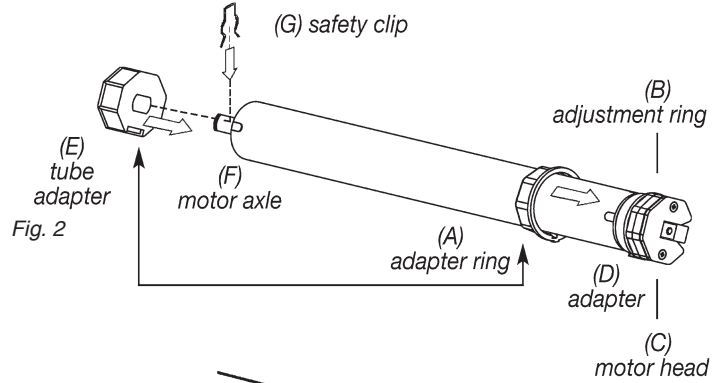
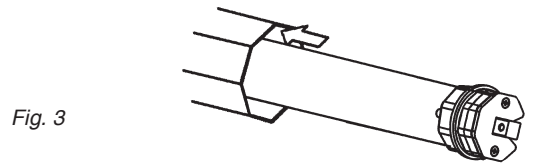

Fig. 2
Fig. 3
5. Slide the adapter ring (A) over the adjustment ring (B) on the motor head (C). Be aware of the correct installation of the notch with the Adapter (D), (figure 2).
6. Place the tube adapter (E) on to the motor axle (F) and secure it with the safety clip (G) that comes within the mounting-kit.
7. Be careful when sliding the tubular motor completely into the tubular shaft, until the adapter ring is covered into the tubular shaft, (figure 3). Under no circumstances external force should be applied to the motor in any way.